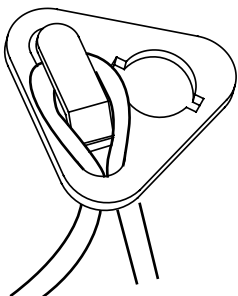

Fig. 6
- Slide the loop over the retaining clip, and pull down until the cord is secured (See Figure 6).